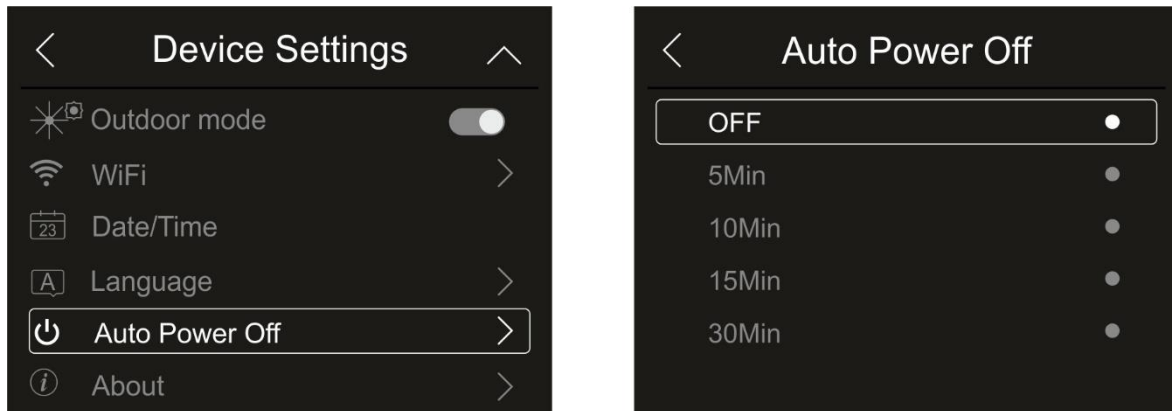

Fig. 21: Auto power off setting
1. Touch item “Auto Power Off” to set the instrument's auto power off time. The screen in Fig. 21 – right side appears on the display: